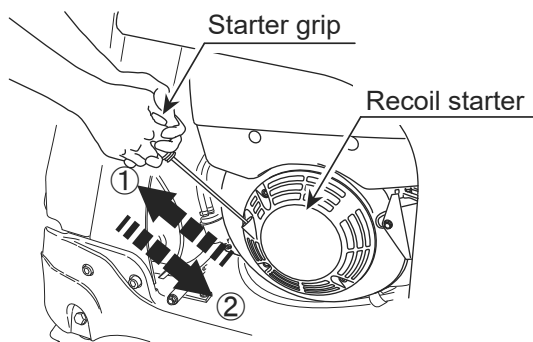

Fig.16
- 3 Hold the recoil starter grip, and pull it a little. You will feel a slight resistance. Then, allow the starter rope to slowly move back into the case while keeping the grip grabbed. (Fig.16)